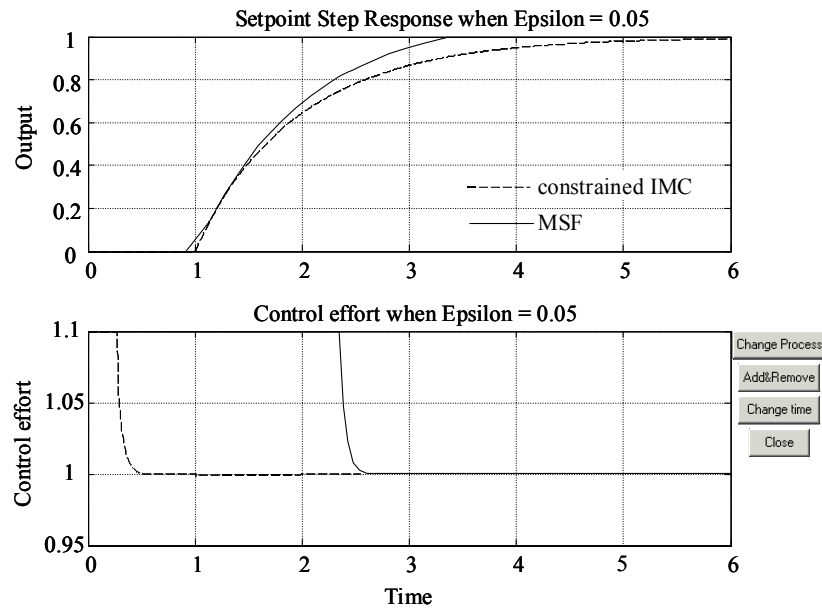

Figure G.11a IMC & MSF step responses.
- IMC & MSF step responses: Provides, and allows comparison of, IMC and MSF step setpoint and disturbance changes as shown in Figures G.11a and G.11b.
The responses in Figures G.11a, G.11b, and G.12 are for the following process, model, and IMC controller